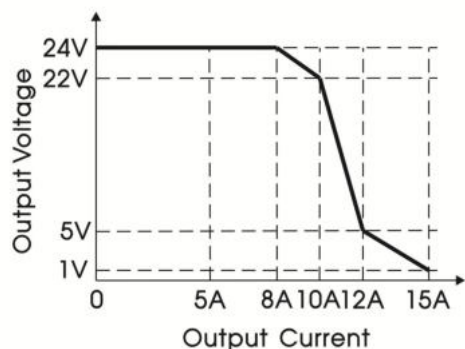

Figure 3
2. Figure 3 shows that the product will enter the overload state when the rated output current increases to 100%-150% I_o (TYP.), and enter the overcurrent protection when the current > 150% I_o (TYP.), and the output voltage will decrease with the increase of the output current. When the output current increases to a certain value, the product will enter the constant current mode;